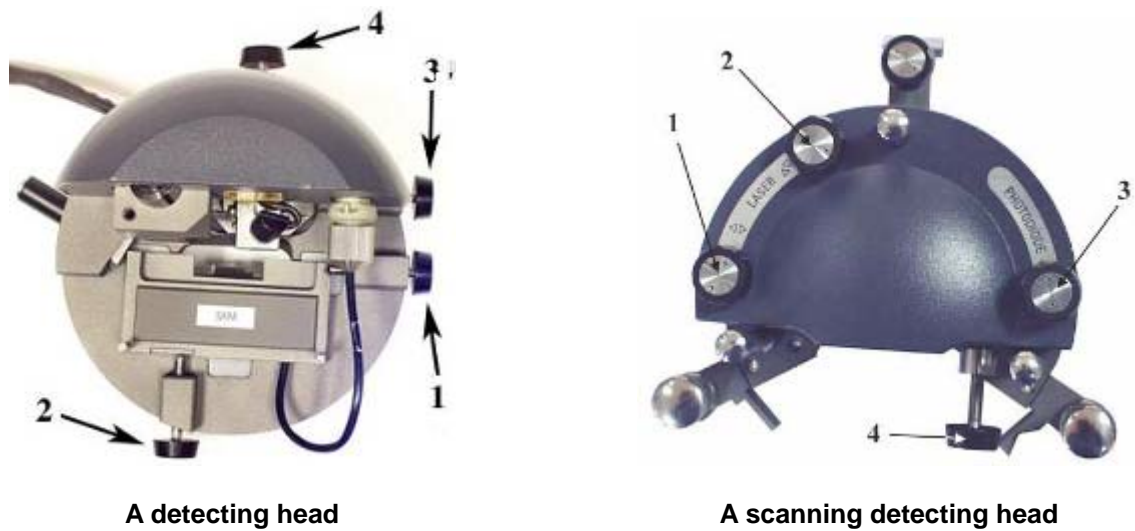
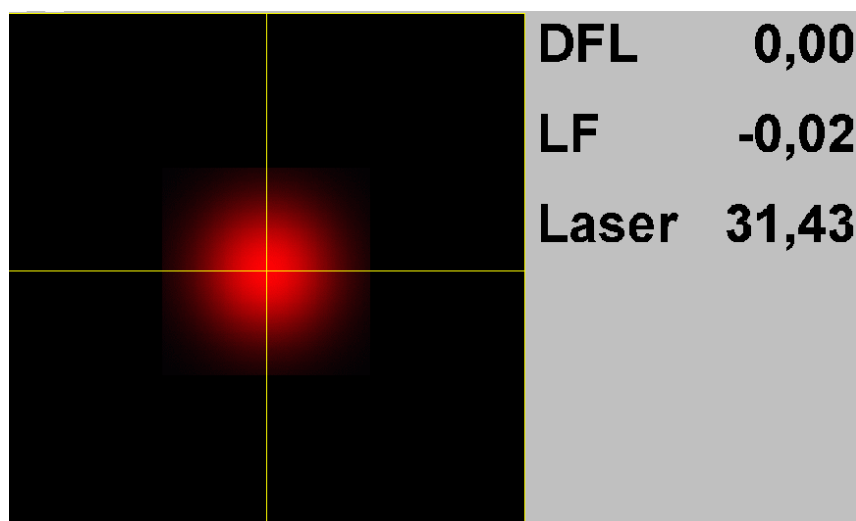

Fig. 3-3. Photodiode vertical movement screw
Fig. 3-5
The value of the initial level of **DFL** signal can be adjusted using knob 4 (Fig. 3-3) performing the mechanical movement of the photodiode in transverse direction relative the cantilever reflected laser beam.
2. Watching the signal level on the indicator set the initial level of **DFL** signal close to zero (Fig. 3-5), using the photodiode vertical movement screw (see Fig. 3-3)